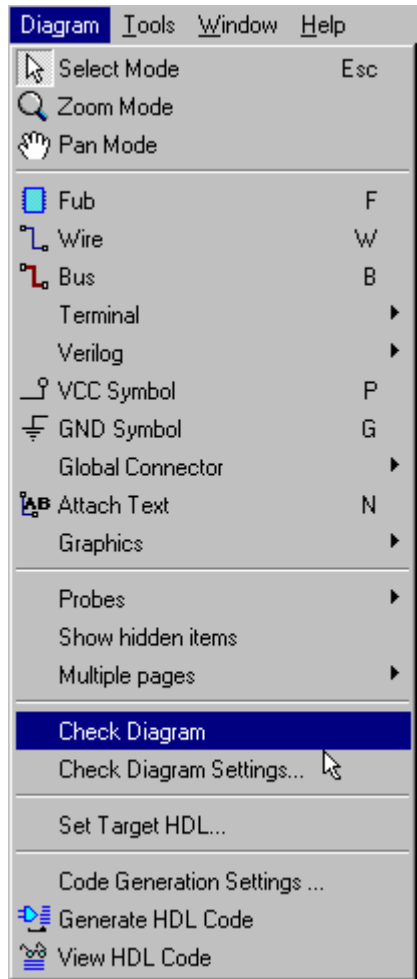
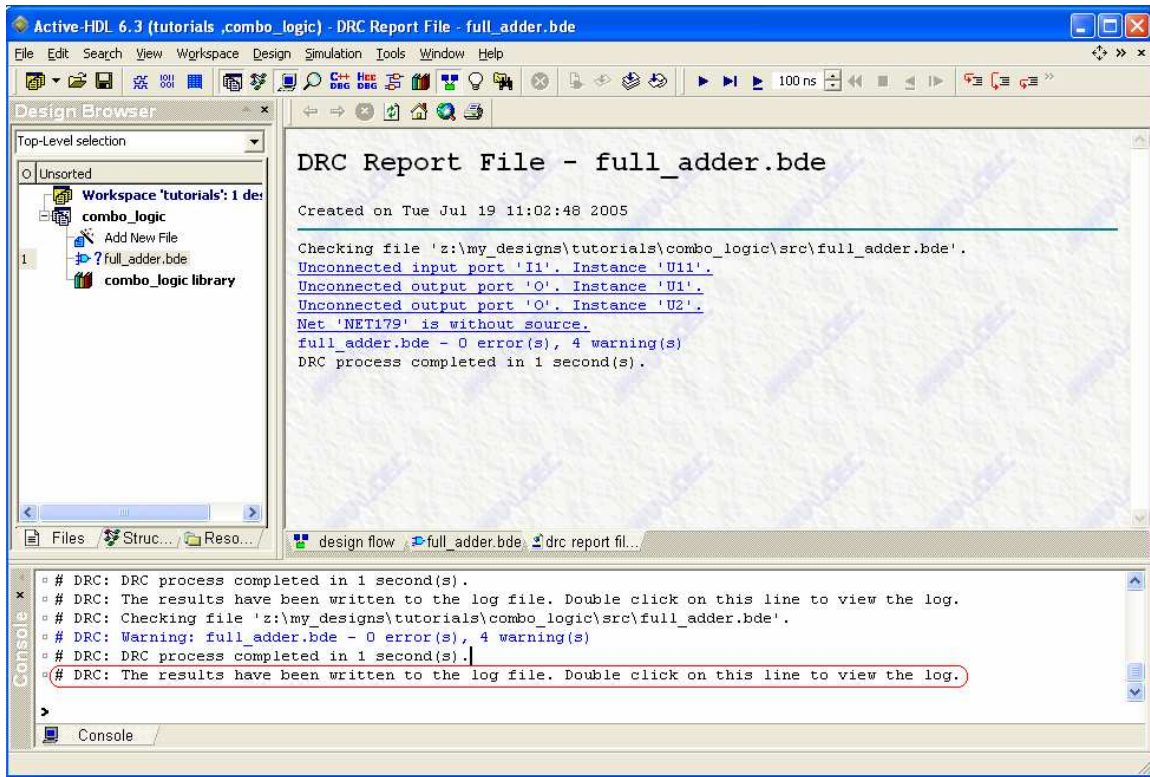

Figure 22
Figure 24
2. Active-HDL provides a “Check Diagram” tool. This tool will verify that the components are connected properly by printing the results into the Design Rule Check report (DRC). To open this report, go to the Console and double-click the line that states, “Double click on this line to view the log” (see Figure 24 in the DRC section). The DRC report is explained later in this tutorial. Always use the “Check Diagram” tool prior to compiling by clicking the Diagram/Check Diagram option in the menu bar (see Figure 22).
When you run the check diagram tool, a DRC report file is created. Open this file by going to the DRC line in the Console and double-click the appropriate line (see Figure 24). This file will list any errors or warnings your design might contain, such as unconnected ports, mislabeled wires and/or terminals, and other connection related errors/warnings. Each error/warning in the report is a hyperlink that will take you to the problematic component in your design. Figure 24 shows an example of a DRC report file for a schematic with an error and some warnings.